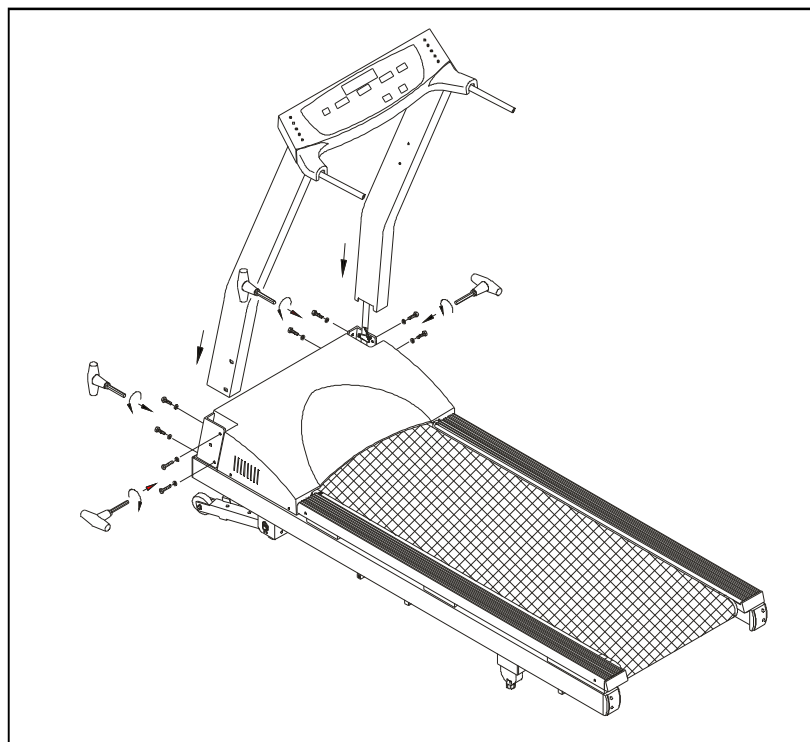

Fig.2
2. Insert the two front posts into their respective sockets and secure with four bolts and washers provided on each side. (see Fig. 2).